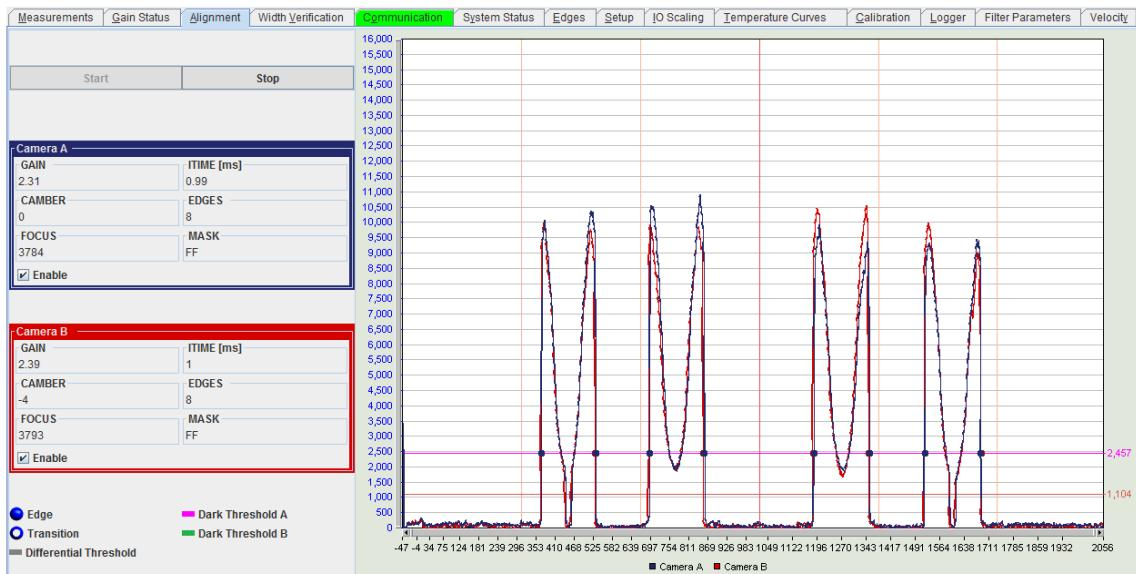

Figure 6.11 Alignment
- 9) Screw in the focus ring (turning clockwise) until fully in. Slowly unscrew the focus ring (Nikon: Figure 6.9, Schneider: Figure 6.9b, 6.10b) so that 8 distinct edges are visible in the video display and the edges are as steep as possible. Resultant video signal should be similar to that of Figure 6.11. When an approximate focus has been achieved and 8 edges are visible, make a final focus adjustment to maximize the number in the **FOCUS** field, it should be higher than the one in Figure 6.11.
- 3) Select the **CAMERA A Enable** checkbox and press the **START** button in the **Alignment** window to display its video signal. When the camera is correctly aligned and focused, the **EDGES** field will display **8** for both cameras and the video signal will resemble the display in Figure 6.11.